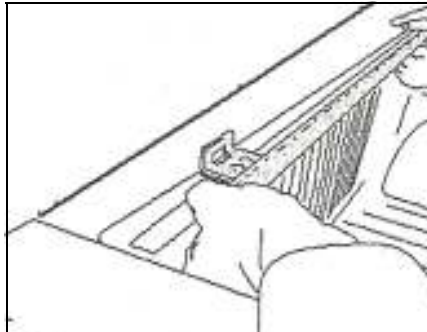

Fig. 1
**REFER to FIG. 1 and Fig. 1A**